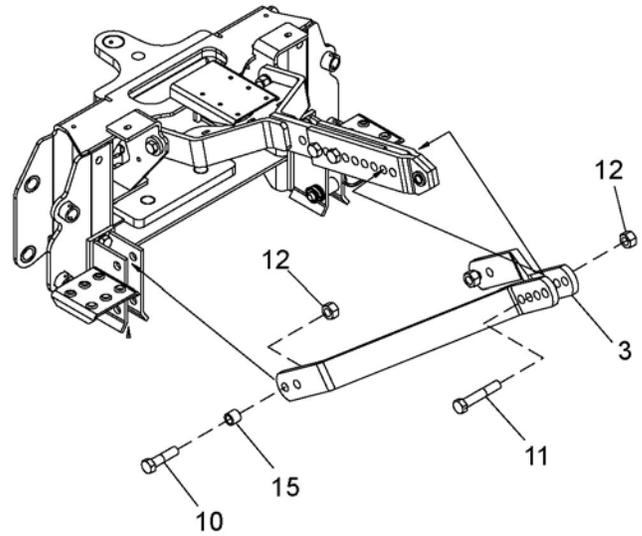

**Figure 3.** Top Link Installation
1. Attach top link (1) to the main frame using two cap screws (7), four hardened flat washers (16), and two hex nuts (8).
2. Slide double top link (2) over top link (1) and secure using two cap screws (10) and lock nuts (12). See Figure 3.
**NOTE:** To estimate the overall length of the two top link bars; roughly measure from the center of the tractor top link bracket to the center of the lower 3-point lift arm pivot as shown in Figure 3. Final adjustment will be made when backhoe is attached to tractor.